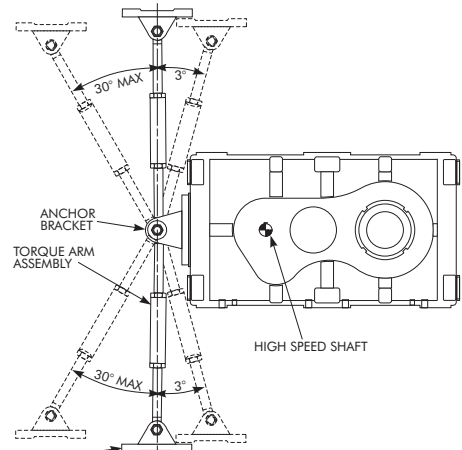

FIGURE 2
4. The exact position of the torque arm may vary within the range shown in Figure 2. For torque arm mountings other than shown, refer to the Factory. If it is necessary to shorten the torque arm assembly, cut the excess from either tie rod end on Sizes M1130 through M1190 only.